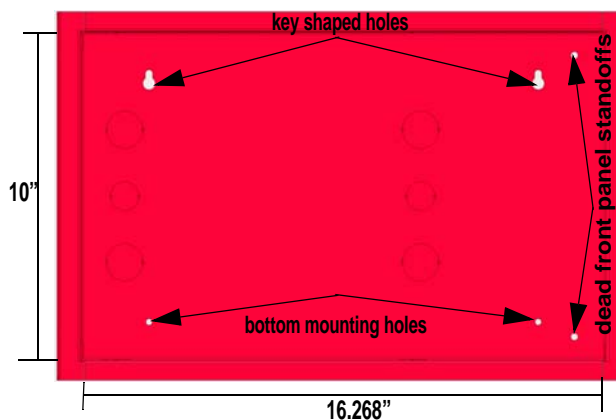

Figure 1.1 Cabinet Mounting Holes
3. Insert two screws into the two bottom mounting holes and tighten them snug to the cabinet. See Figure 1.1.